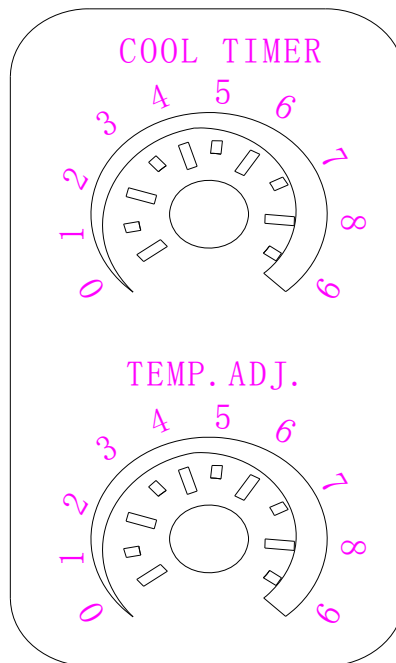

FIG 3-6
① Temperature adjustment: In the control cabinet of the machine and above the circuit board, open the cover plate of the control cabinet and you will see a potentiometer. Turn it in the clockwise direction and the temperature will increase. If the temperature is higher or lower than it should be, the adhesion level will not be as good as it should be. Therefore do not adjust too much as the difference in temperature will be too much. Adjust to between 4 and 5 and it will be fine (show as FIG3-6).
② Cooling time adjustment (COOL TIMER): In general, the temperature of the heater is sufficient, but because of different strap types, materials, and other factors, sometimes if you adjust the temperature it may not reach the perfect melting point. In such an instance, the adjuster can be adjusted (extended) two lead bonding (cooling) for a longer time, as the longer the cooling time, the adhesive strength is further strengthened. Clockwise cooling time is longer, and the adjustment is made in 0 seconds. (Refer to FIG 3-6).
③ To tighten the adjustment there is a potentiometer button marked “TENSION”. Turn it in the clockwise direction to tighten. If the strap does not tighten you need to adjust the pendulum block and increase the power.